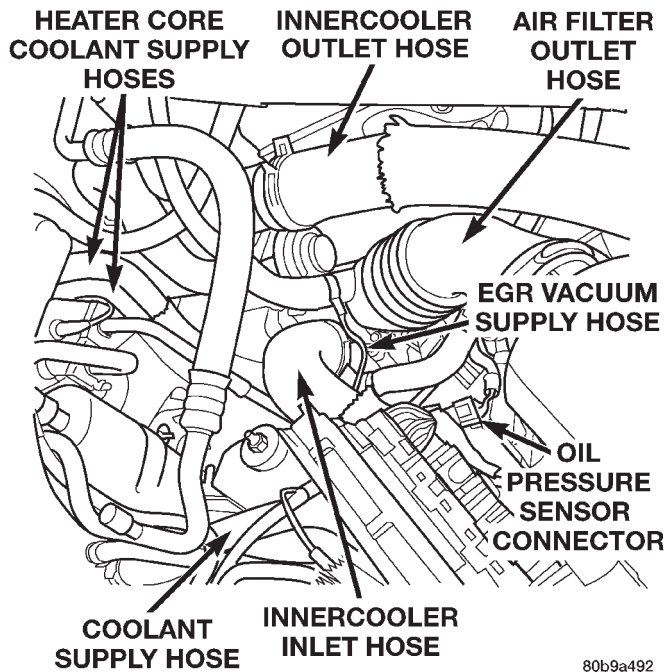

Fig. 26 LHD Engine Compartment — Diesel
- (25) Install the center console. Refer to Group 23, Body for the procedure.
- (26) Position, connect and secure all engine wiring in its original position
- (27) On L.H.D. vehicles, connect the heater core coolant supply and brake vacuum supply hoses on the engine.
- (28) On R.H.D. vehicles, position the steel line assembly and connect the heater core coolant supply and the brake vacuum supply hoses on the engine.
- (29) Install the coolant reservoir supply hose on the engine (Fig. 26).
- (30) Install the innercooler inlet and outlet hoses on the engine (Fig. 26).
- (31) Install the upper and lower radiator hoses on the engine.
- (32) Fill the cooling system. Refer to Group 7, Cooling System, for the procedure.
- (33) Connect the oil pressure sensor electrical connector (Fig. 26).
(34) Connect the EGR vacuum supply hose on the engine (Fig. 26).
(35) Install the air filter outlet hose and connect the breather hose on the engine (Fig. 26).
(36) Install the refrigerant suction and discharge lines. Torque the retaining bolts on the A/C compressor to 22 N·m (200 in. lbs.). Make sure the O-Rings are well lubricated and free of tears.
(37) Charge the refrigerant system. Refer to Group 24, Heating and Air Conditioning for the procedure.
(38) Install the manual cooling fan.
(39) Connect the electric cooling fan electrical connector.
(40) Install the battery tray.
(41) With assistance from another person, install the hood.